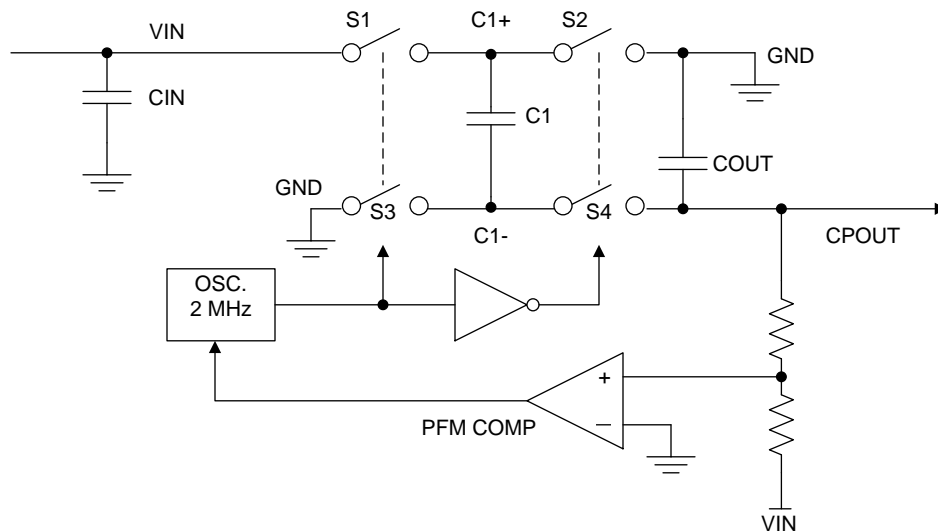

Figure 17. Voltage Inverting Principle
The voltage inverter portion of the LM27761 contains four large CMOS switches which are switched in sequence to invert the input supply voltage. Energy transfer and storage are provided by external capacitors. Figure 17 shows the voltage switches S2 and S4 are open. In the second time interval, S1 and S3 are open; at the same time, S2 and S4 are closed, and C1 is charging C3. After a number of cycles, the voltage across C3 is pumped into V_{IN} . Because the anode of C3 is connected to ground, the output at the cathode of C3 equals $-(V_{IN})$ when there is no load current. When a load is added the output voltage drop is determined by the parasitic resistance ($R_{DS(ON)}$ of the MOSFET switches and the equivalent series resistance (ESR) of the capacitors) and the charge transfer loss between the capacitors.
- R_{SW} is the sum of the ON resistance of the internal MOSFET switches shown in Figure 17. (1)